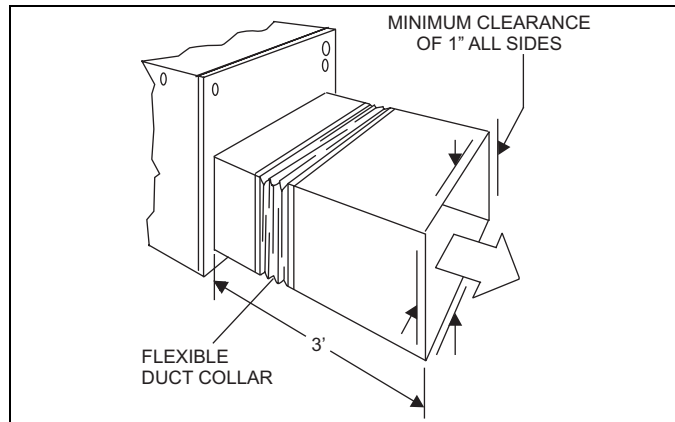

FIGURE 1: Plenum Clearances
- Refer to the unit rating plate for the air handler model number, and then see the dimensions page of this instruction for supply air plenum dimensions in Figure 1. The plenum must be installed according to the instructions.
If electric heat is used, a minimum clearance of 1" must be maintained on all sides of the supply air duct and/or plenum continuously for up to 3' (See Figure 1).